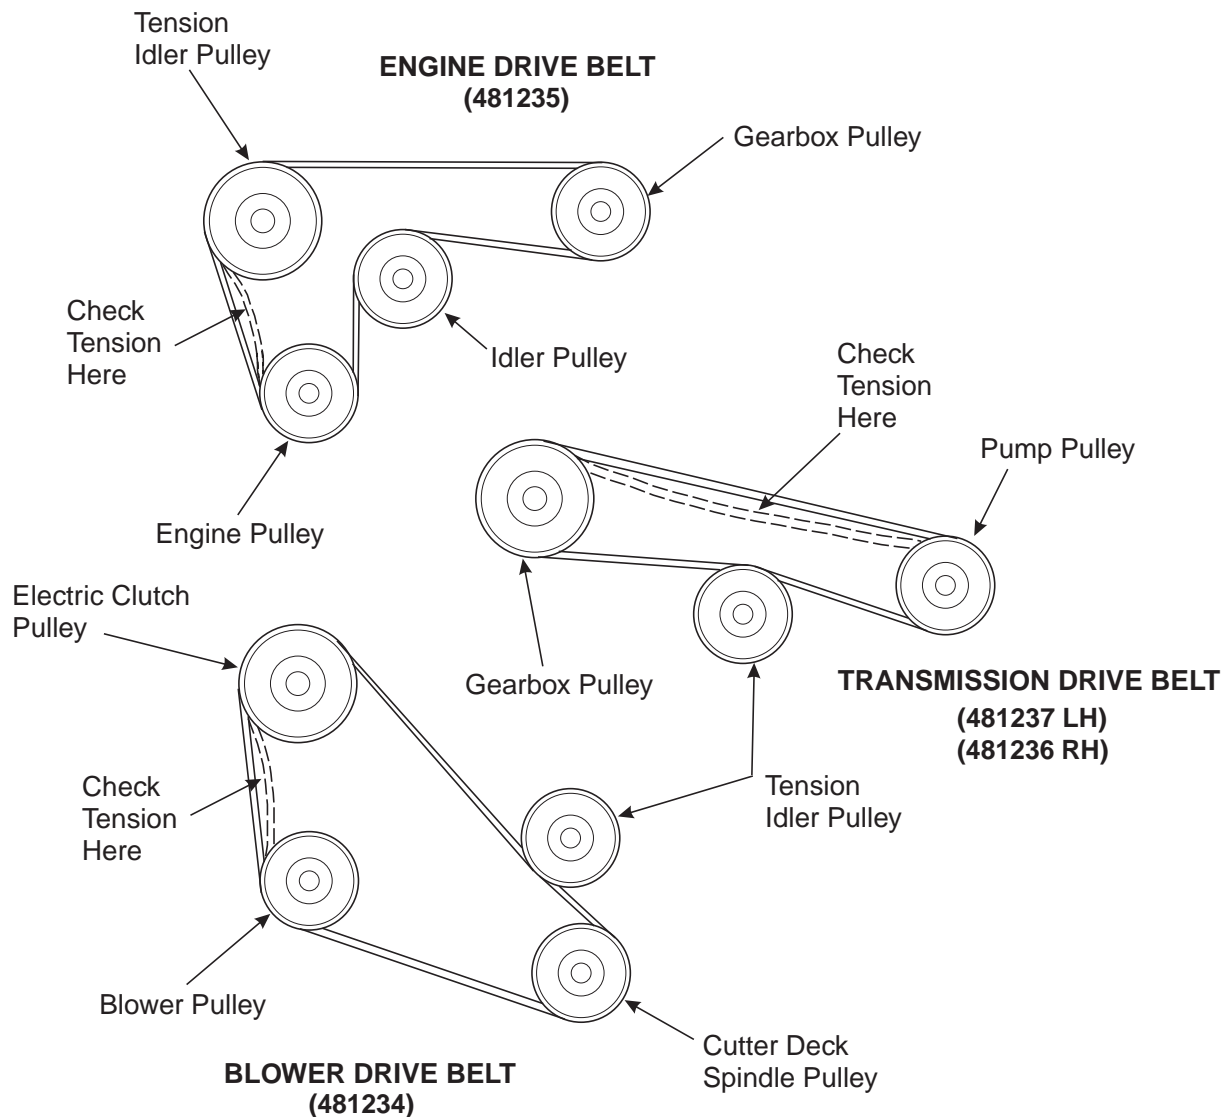

Figure 7-8 Belt Tensioning
1. Using a belt tension gauge attached to the belt at the position shown in Figure 7-8, check that the belt deflects 1/2 inch with 10 pounds of pressure applied. Adjust belt tension as necessary, see Adjustment Section 6.